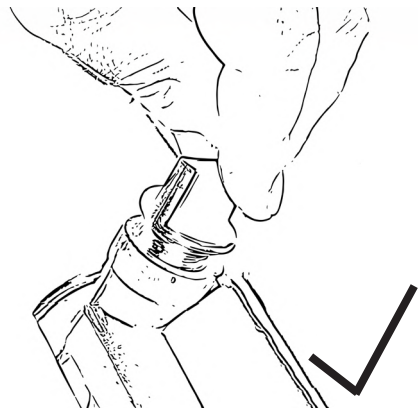

Figure 15
- Unscrew the oil filler plugs with connected dipstick, Fig. 15.